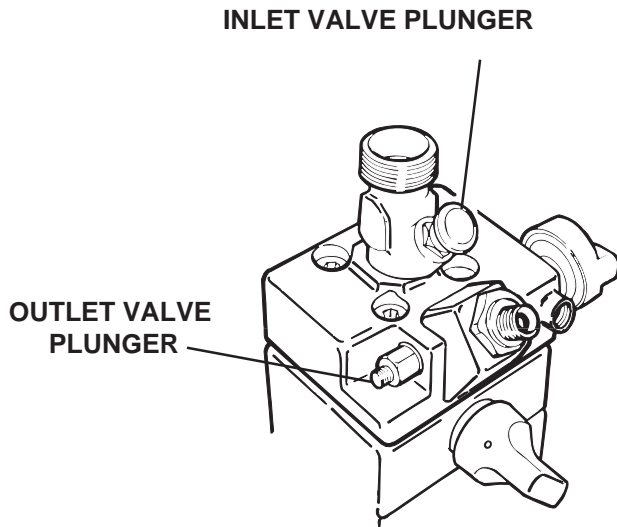

Figure 14.-Inlet & Outlet Valve Plungers
See Figure 14 for location of inlet valve. The inlet valve should be checked if the sprayer draws up little or no paint. It is a good practice to check inlet valve operation before spraying. If the sprayer has been in storage, the inlet valve may be sticky.
3. Let inlet valve suck against the palm of your hand. If little or no suction is felt repeatedly move the plunger in and out to lift inlet valve stem, as shown in Figure 14. Put in a few drops of light oil or cleaner.
- Push the plunger in and out to lift the ball off the seat. See Figure 14.